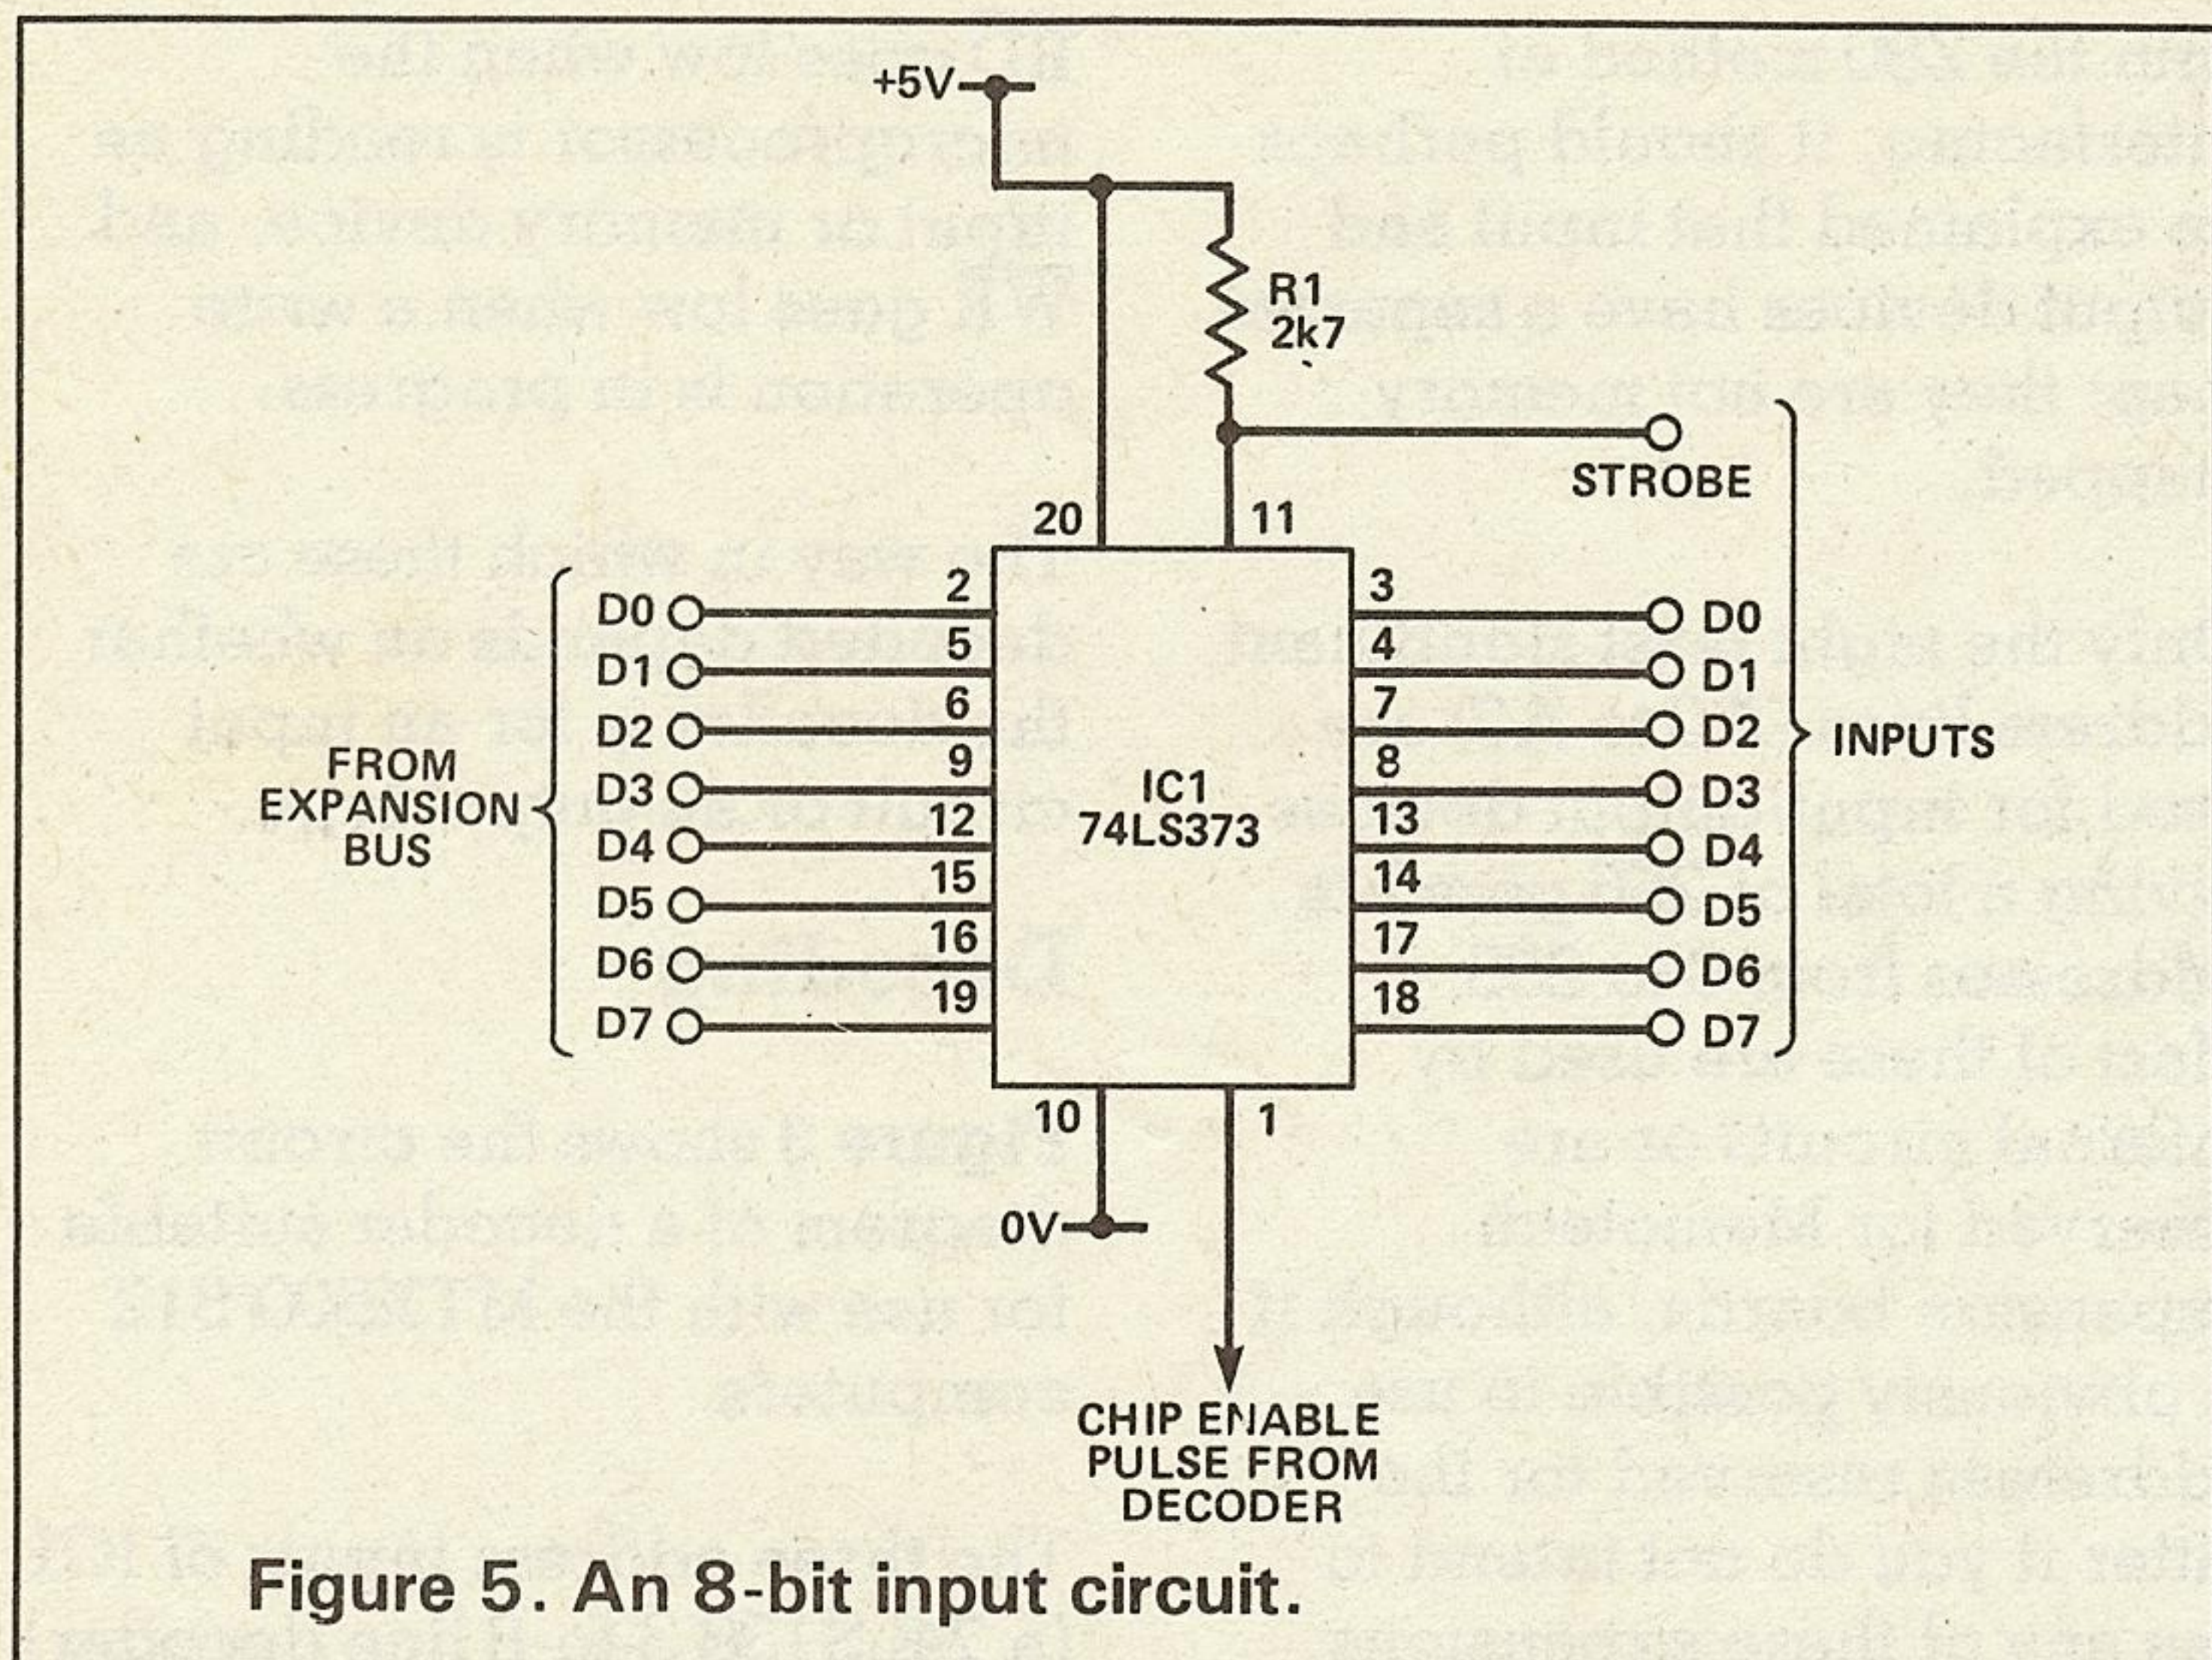

Figure 5. An 8-bit input circuit.
**Figure 5** shows the circuit diagram of an 8-bit input port for use with the decoder circuit, and this is essentially the same as the input port of the user port.